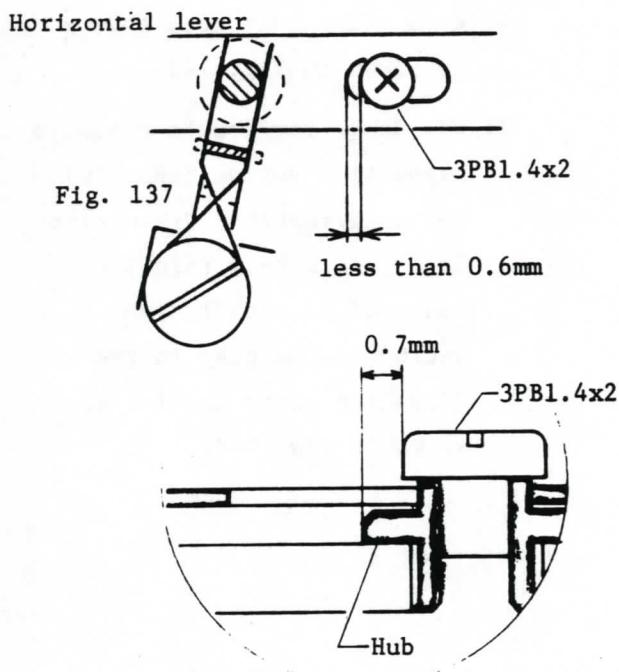

Fig. 138
- * Judge 0.6mm gaps with an eye-measurement referring to 0.7mm gaps between edge fo Hub and head of Screw (3PB1.4x2) as shown in Fig. 138.
(2) Adjustment at the counter "1"